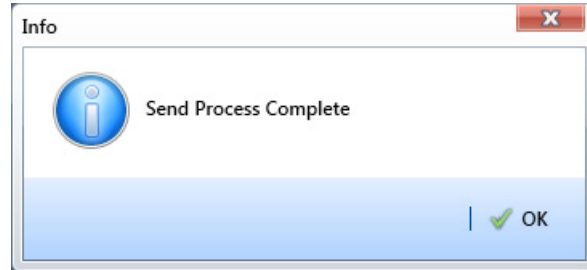

Figure 13-14. Send Process Complete
- 20** When a message displays confirming the send process is complete, click  **OK** to close the message (Figure 13-14). If you selected to send the survey file to the Allegro, PCS Axis sends the survey file to the *PSData* folder on the Allegro.